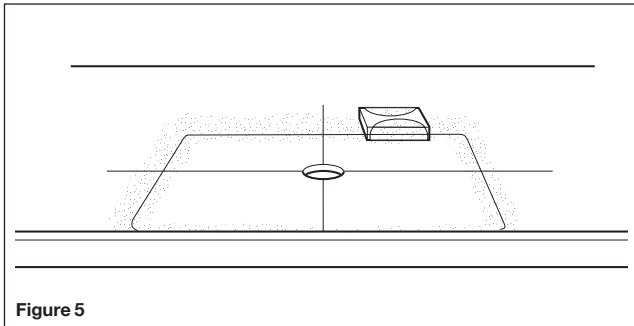

Figure 5
- Aggressively scuff sand the bonding area on the sheet and sink flange with #60 grit sandpaper on a hand block. Note: Do not use a random or random orbital sander. (See Figure 5)